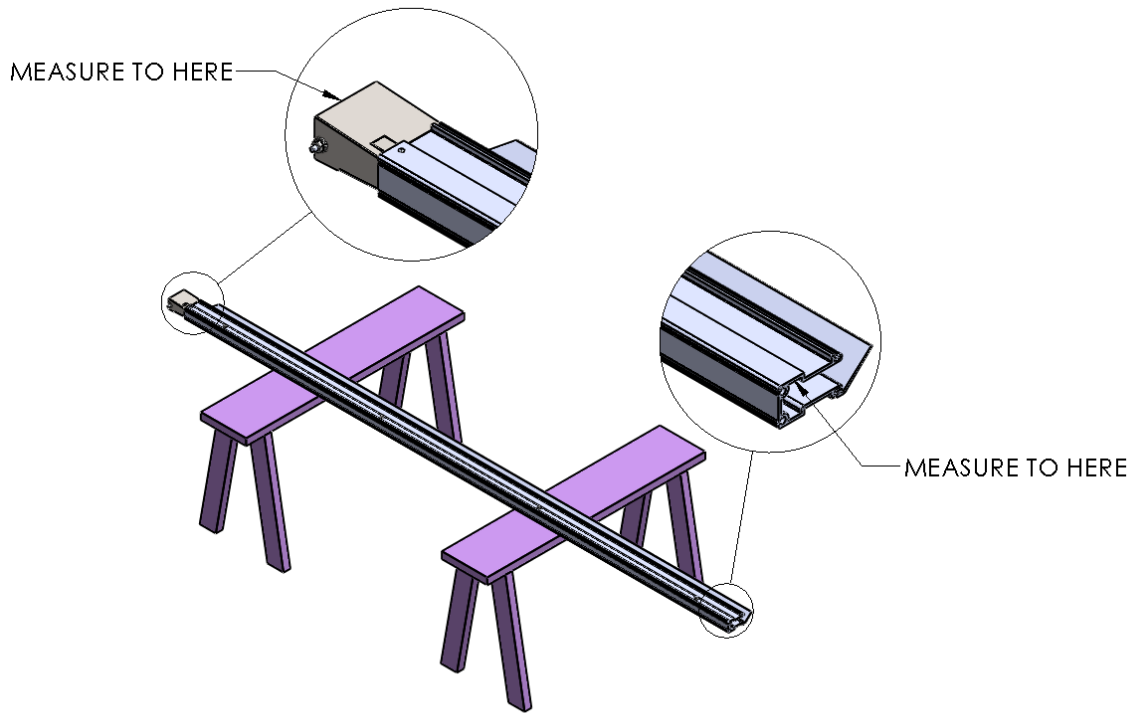
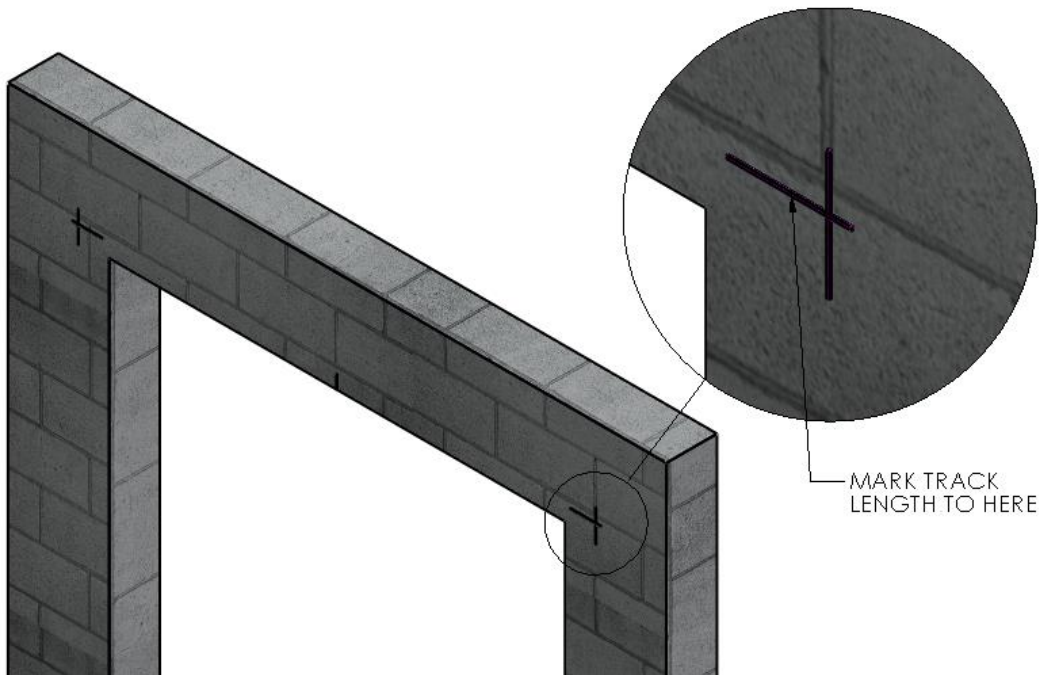

Figure 4 MEASURE TRACK HEIGHT
Figure 5 MARK TRACK HEIGHT
5. Set one of the Vertical Track Assemblies on your work surface and measure its overall length, from track end to the outer edge of the metal transition piece at the other end. Add $\frac{1}{4}$ " to this number and take note. This is the height dimension needed to mark the location of the bottom edges of the upper mount flanges. With that number, add a horizontal line on each side that intersects the previously drawn vertical line marking the overall width of the roll assembly. (Figure 4 MEASURE TRACK HEIGHT) (Figure 5 MARK TRACK HEIGHT)
6. Using two (2) people, and two ladders at minimum, raise the Header Assembly to fit between, and above, your markings on the wall. Trace the insides of its oval mounting slots onto the wall mount surface (a Sharpe permanent marker works great for this). Be sure that that its bottom edge is on the height line, and that the outer edge is on your vertical overall width line.
7. Predrill through the centers of the traced locations for the mounting hardware, three (3) pilot holes on each side. Using adequate mounting screws or bolts (depending on your building/surface material) attach the header offset brackets to each side of the opening.